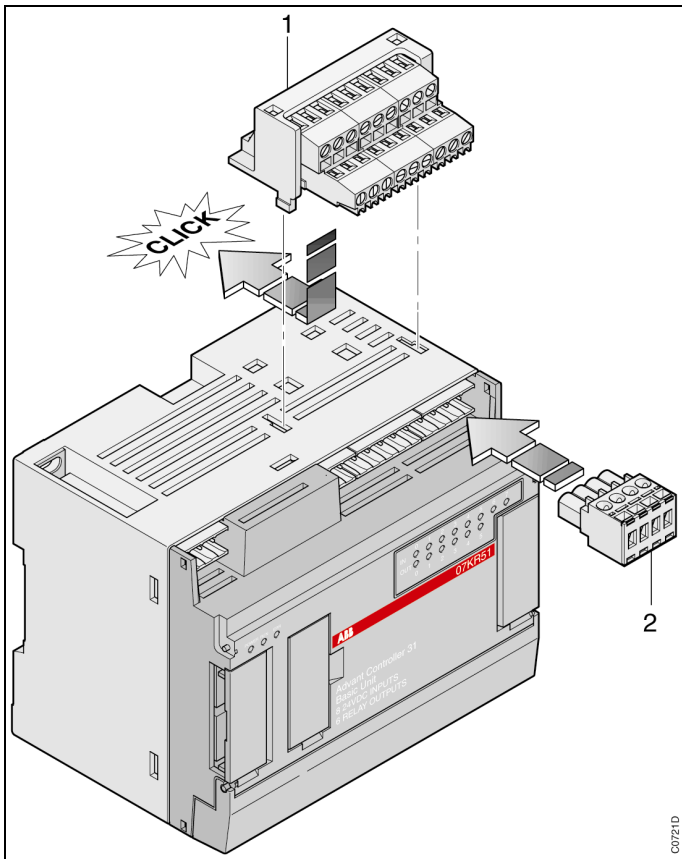

Figure 3-19 : External dual connectors (07 ST 50)
7.4.1. External dual connector: 07 ST 50 (see Figure 3-19)
7.4.2. "Cage-clamp" type connectors (see Figure 3-19)